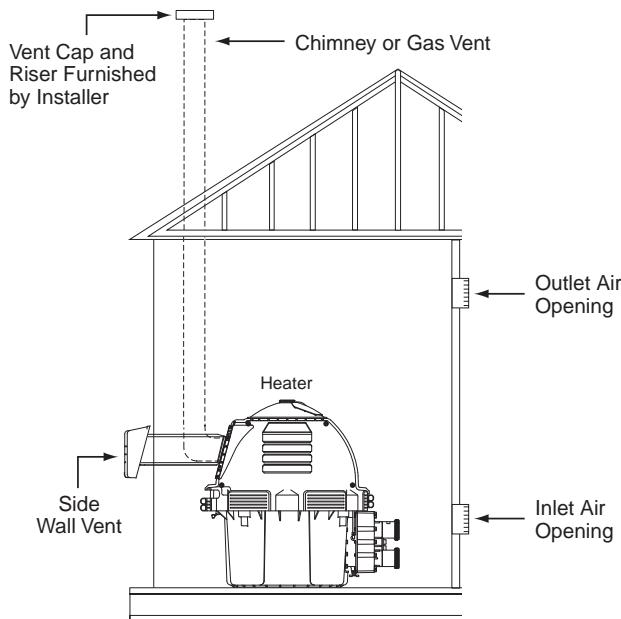

Figure 16.
HORIZONTAL OR VERTICAL VENTING - POSITIVE PRESSURE (See Figures 16, 17, and 18)**(Category III)**
6. **Vent Termination – Vertical (See Figures 16 and 17),** for height of vent termination above the roof. Use an "Approved" vent terminal specified by local and national codes and your manufacturer's instructions. A roof termination must be vertical. In Canada, the Vent Cap location shall have a minimum clearance of 4 feet (1.2M) horizontally from electric meters, gas meters, regulators, and relief openings.